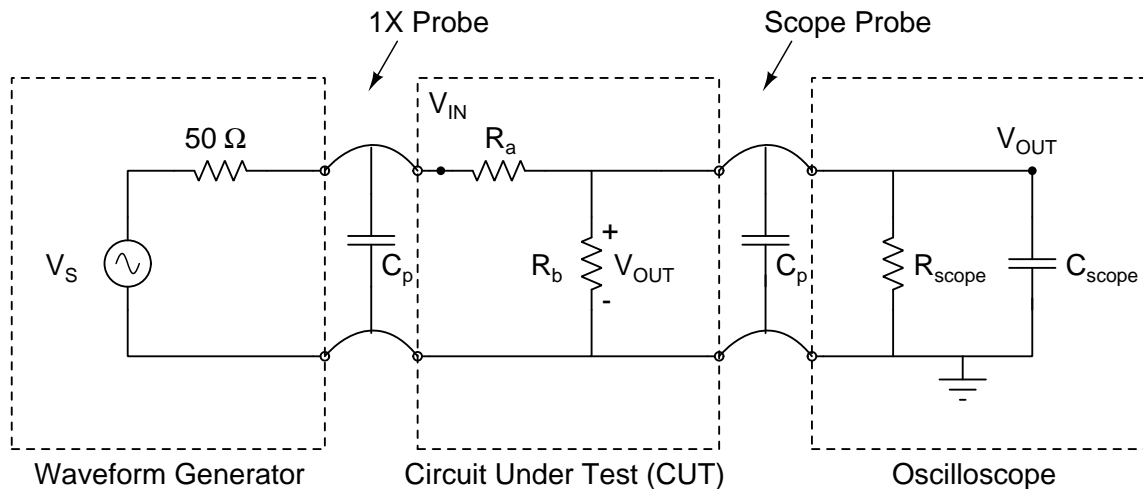

Figure 2: Measurement set-up for the resistor divider circuit.
This lab illustrates that the actual values of the components, and the impedances associated with the test equipment and cables, must be considered when determining the actual value of the voltage across a circuit element. All voltage sources, including batteries and waveform generators, have a finite source impedance. All measurement equipment, including oscilloscopes and digital volt meters (DVMs), have a finite input impedance that presents a load to the circuit. Cables that connect the circuit to the test equipment introduce additional impedances in the circuit. The schematic of the circuit under test (CUT) when connected to a waveform generator (WG) and oscilloscope (scope) is shown in Figure 2.
1. Use Matlab® to plot the capacitance, DF, and ESR as a function of frequency for the 1X-probe and scope probe that you recorded during the Lab Procedure item 1 and item 2.
2. Use NGSpice to simulate the expected output voltage  $V_{OUT}$  as a function of the resistance  $R$ , when the value of  $R$  is varied from  $10\ \Omega$  to  $10\ \text{M}\Omega$ . Simulate the circuit of **Figure 2**. Include the capacitance of each probe, the output resistance of the WG, and the input impedance of the scope. A Matlab® file is available at: ([https://davidkotecki.com/ECE214/docs/Matlab/ECE214\\_2022\\_Lab1.m](https://davidkotecki.com/ECE214/docs/Matlab/ECE214_2022_Lab1.m)).
3. Plot the simulated results from Post-Lab **item 2** on a semi-log graph with the x-axis (resistance value) as the logarithmic scale. On the same graph, plot the three measured values of  $V_{OUT}$  from **Table 2**.